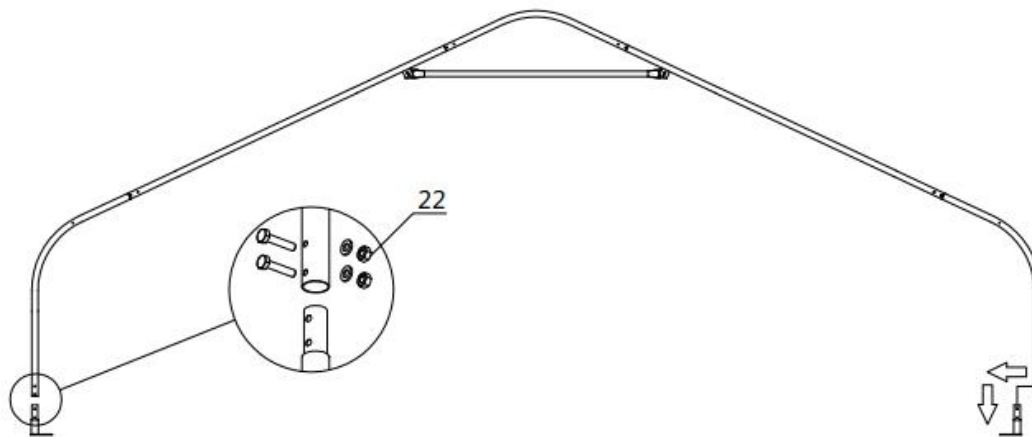

Figure 5
Step 3 : Put up all trusses (refer to figure 5)
- Parts used in this step : (4) Hex bolt (#22)